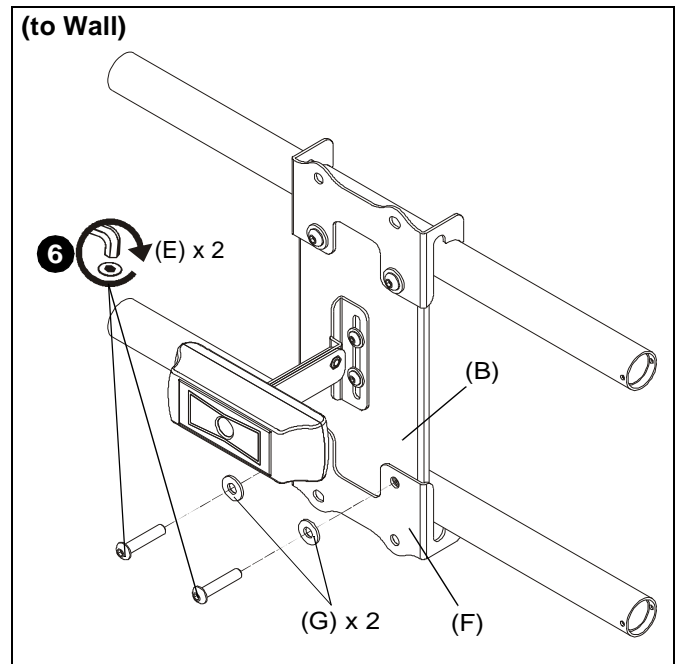

Figure 8
6. Use two 1/4-20 x 1 1/4" button head cap screws (E) and two 1/4" washers (G) to attach the other center holder (F) to center plate (B). (See Figure 8)